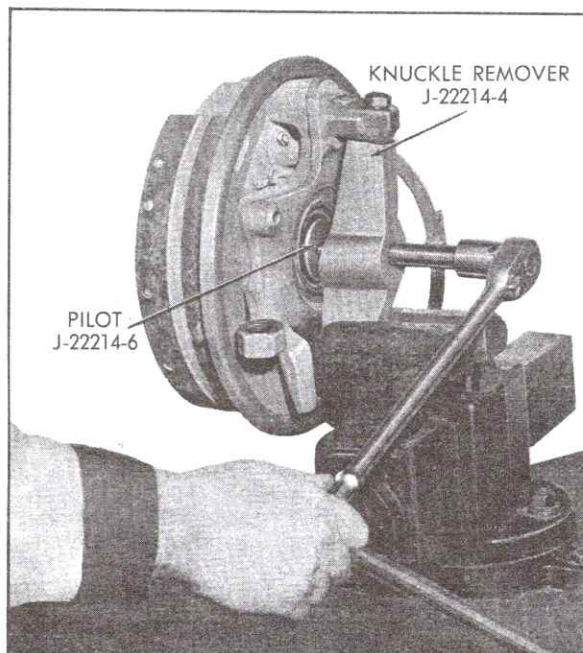

Fig. 3-32 Removing Hub from Knuckle
6. Secure Knuckle Remover, J-22214-5, with assembly attached, in a vise, Fig. 3-32.